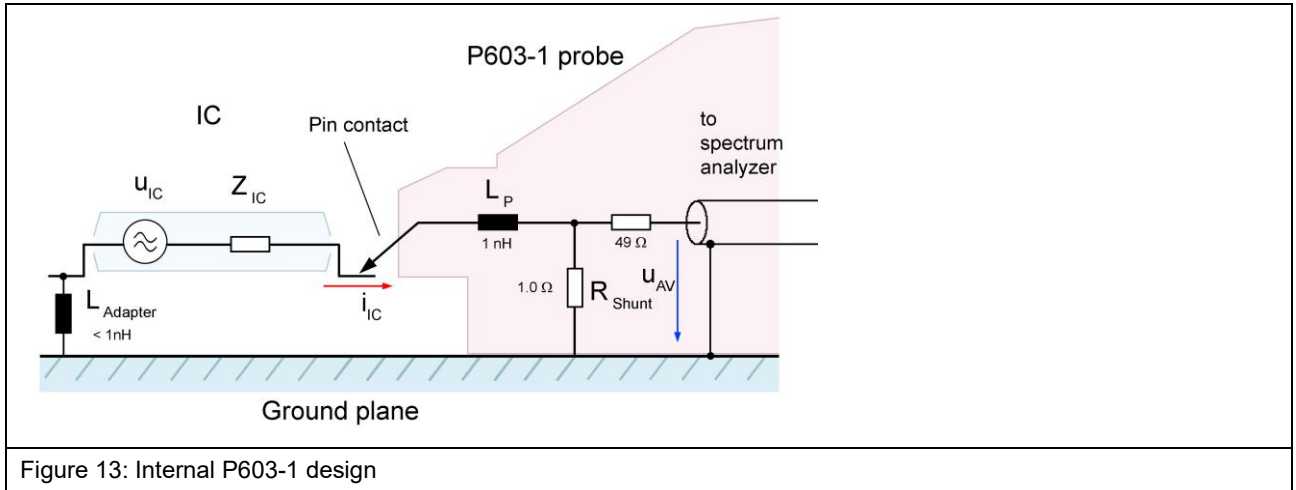

Figure 13: Internal P603-1 design
**Figure 13** shows the equivalent circuit diagram of the **P603-1** probe. The current probe head comprises a 1 Ohm shunt and a 49 Ohm matching resistor. An additional capacitor  $C_{ext}$  can be inserted between the test IC and the probe to reduce the stress on the signal pins caused by the 1 Ohm shunt. The **P603-1** current probe head has an inductance  $L_P$  of 1 nH in the line from the tip of the probe contact to the shunt. This value and the associated measurement error are much smaller than the value achieved with the set-up according to IEC 61967-4. The pin contact of the probe has to be brought into contact with the respective test IC pin to perform the measurement. Please refer to the “ICE1 user manual”1 and “Guideline IC EFT immunity”2.